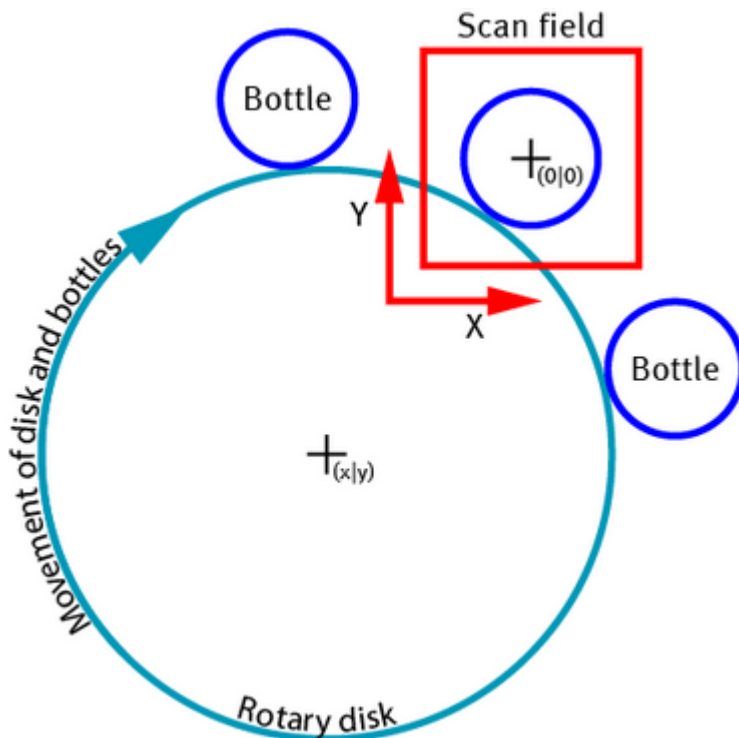

Figure 271: Setup RMOTF
Figure 271 shows a rotary disk (light blue) which is rotating clockwise. Bottles (dark blue) are rotated by this disk and thereby pass by the scan field (red) with the origin of the coordinate system (0|0). The center of the rotary disk (x|y) is given in respect to the origin within the scan field.
- c. In figure 271, we use a 100 mm scan field, from -50 mm to 50 mm, so that the origin has the coordinates (0|0).
- d. Setup a job that contains a dot with the coordinates of your origin (in our example (0|0), figure 271).
- c. Enable MOTF, simulation and choose "Rotation". See figure 271 to determine the correct coordinates of the Rotation Point (the point is (-x|-y) in this example).